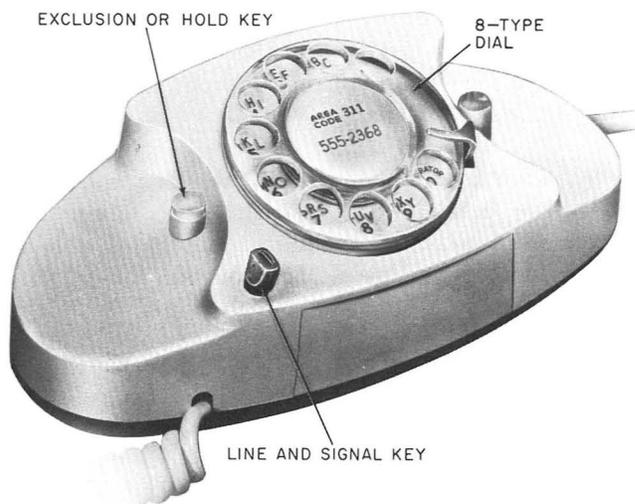
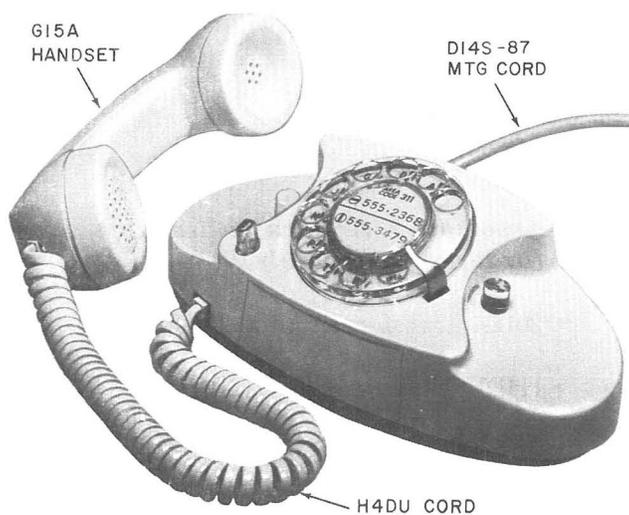

Fig. 1—712B Telephone Set—Without Handset
Fig. 2—712BM Telephone Set
2.02 The 712B (Fig. 1) and 712BM (Fig. 2) telephone sets are equipped with a 638-type key for line selection and signaling.